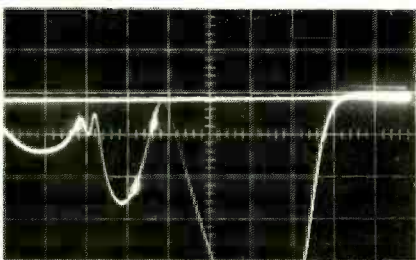

FIG. 8—41.25-MHz sound trap is out of adjustment if it produces this waveform.
3. Turn on the 47.25-MHz marker switch, then follow the same procedure to align the adjacent-channel sound trap. If the set has one, adjust the 39.75-MHz adjacent picture trap. Align it to the manufacturer's specs. Fig. 7-b is a typical response curve. The response curve in Fig. 8 indicates that the 41.25-MHz sound trap is out of adjust-